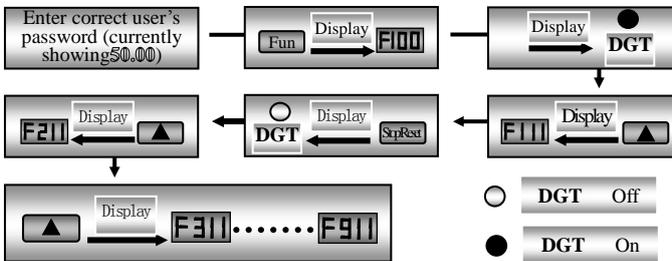

Fig 2-2 Switchover in a Code Group or between Different Code-Groups
e.g. when function code shows F111 and DGT indicators on, press “▲”/ “▼” key, function code will keep increasing or decreasing by degrees within F100~F160; press “stop/reset” key again, DGT indicator will be off. When pressing “▲”/ “▼” key, function codes will change circularly among the 10 code-groups, like F211, F311...FA11, F111.... Refer to Fig 2-2 (The sparkling “50.00?” is indicated the corresponding target frequency values).